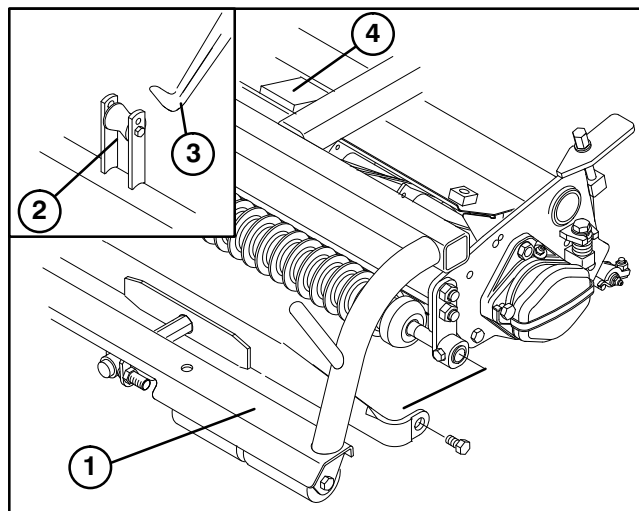

Figure 8
2. Slide the cutting unit under the pull frame while hooking the lift roller onto lift arm (Fig. 8).
3. Mount traction unit pull frame to cutting unit with (2) shoulder bolts.
4. Affix a rubber pad to each cutting unit shield, positioning it directly under lift arm (Fig. 8).